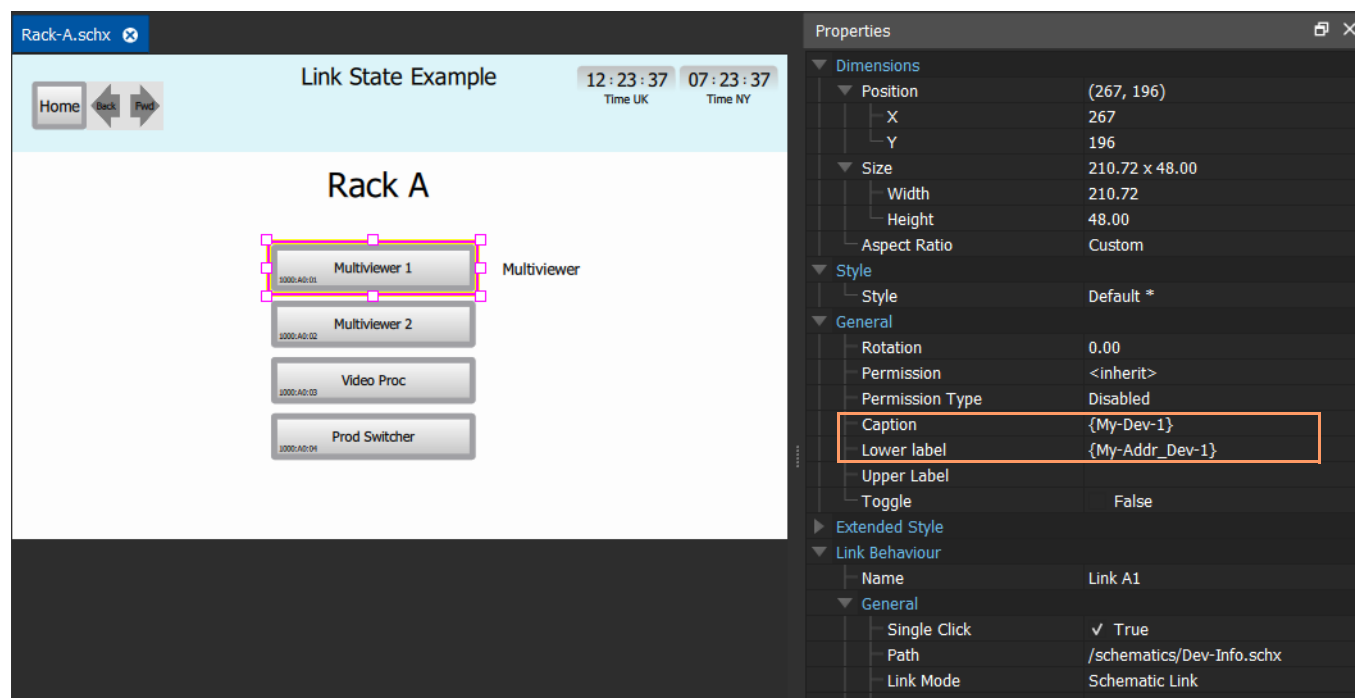

Fig. 8-19: Button Configuration
7 Set the Button's **Caption** property to be the screen variable for the device name. See Figure 8-19.
- 8 Set the Button's **Lower label** property to be the screen variable for the device RollCall address. See Figure 8-19.